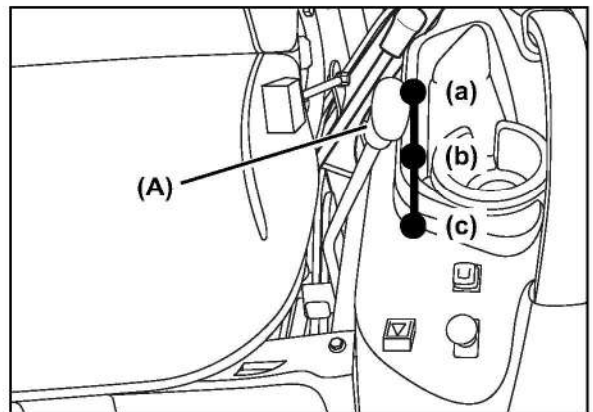

Fig 5-33
### (19) Range shift lever (SA424) (Fig 5-33)